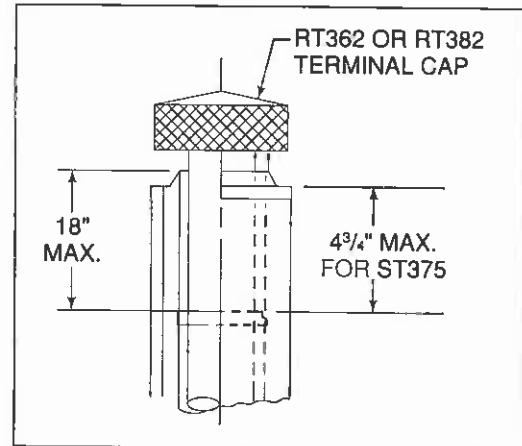

Figure 19
2. Install the Chimney Sections up through the chase. When using a Round Terminal Cap (RT364, RT364S or RT384), the last section of Pipe must extend above the Chase Top to allow installation of the Storm Collar and Terminal Cap. For installations utilizing a Telescoping Round Terminal Cap (RT362 or RT382), or Telescoping Square Terminal Cap (ST376), the last Chimney Section must be below the top of the Chase Top, but not more than 18" below the Chase Top. For installations utilizing a Square Terminal Cap (ST375), the last Chimney Section must not be more than 4³/₄" below the base of the Chase Top. See Figure 19.